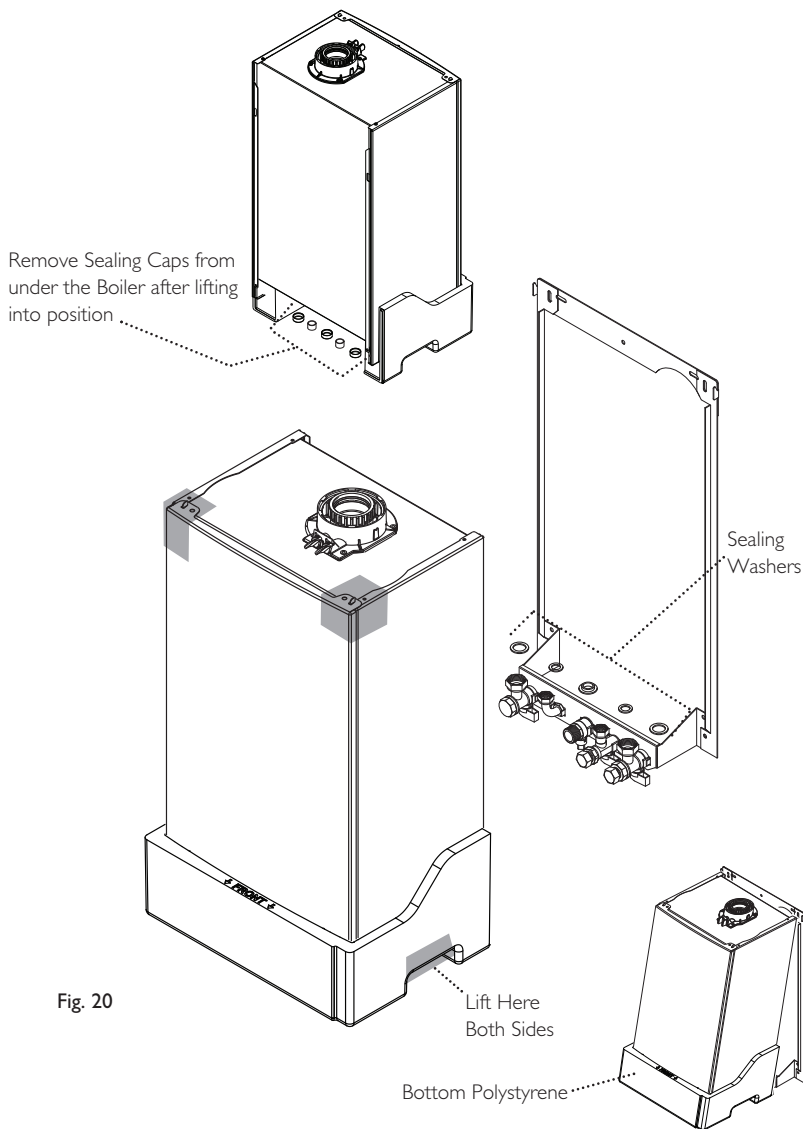

Fig. 20
9.4 Fitting The Boiler (Fig. 20)